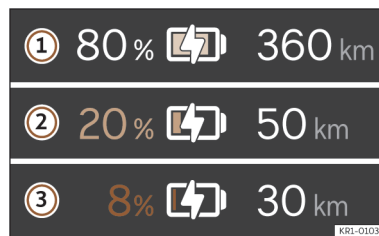

Fig. 2 On the digital instrument cluster: range and reserve indication.
The current state of charge of the high-voltage battery is indicated by the  symbol on the digital instrument cluster >>> **Fig. 2 ①**. The battery symbol will be more or less full depending on the state of charge of the battery.
The vehicle range is displayed in kilometres (km) or miles (mi) depending on the selected setting >>> **Fig. 2 ②**.
Reserve area >>> **Fig. 2**